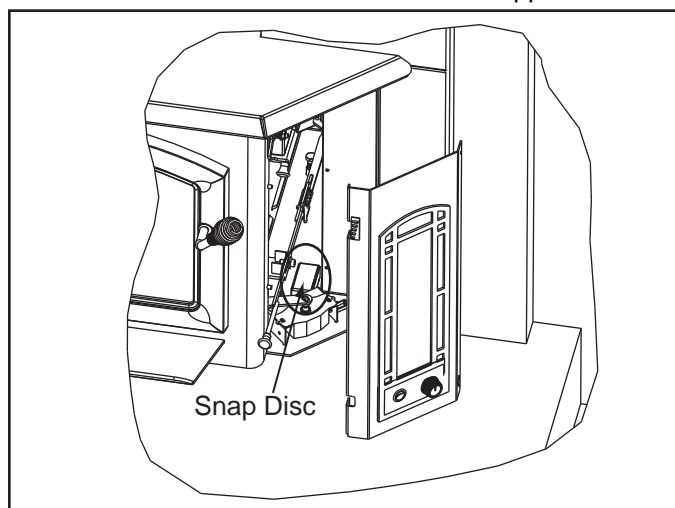

Figure 21.1 Snap Disc Location
1. Locate the snap disc bracket assembly at the bottom left rear corner of the appliance. **Figure 21.1**